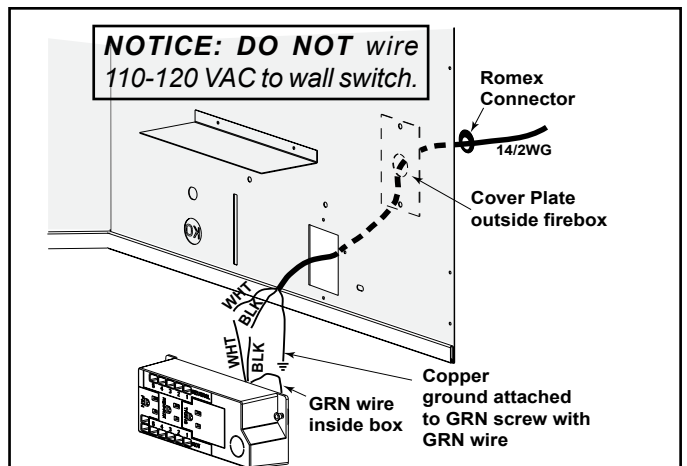

Figure 8.4 Junction Box Wiring (Generic Model Shown)
- Pull the electrical wires from outside the appliance through the opening into the valve compartment and secure wires with a Romex connector. See Figure 8.4.